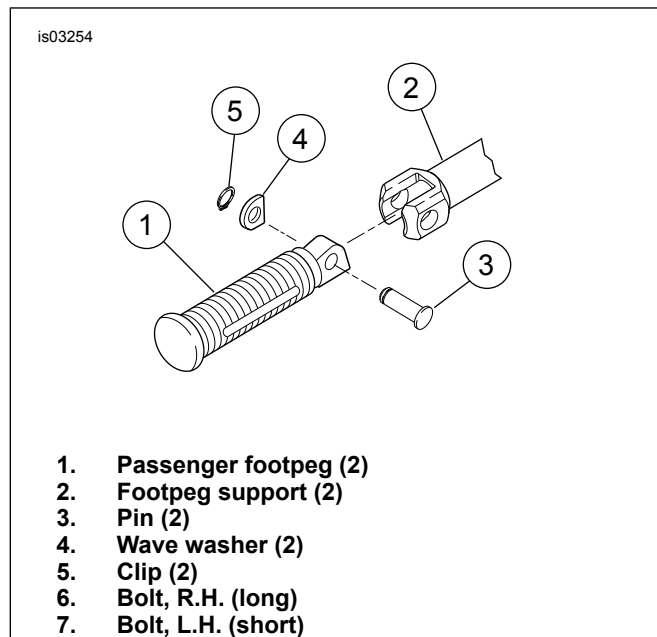

Figure 5. Passenger Footpeg Mounting (Right Side)
2. See Figure 5. Remove passenger footpeg (1) from footpeg support (2) by removing pin (3), wave washer (4), and clip (5). Save parts for kit installation.
1. See Figure 5. Align footpeg support (2) with hole in frame.
1. See Figure 5. Align footpeg support (2) with hole in muffler support.
1. See Figure 5. Install passenger footpeg (1) to footpeg support (2) using original pin (3), wave washer (4), and clip (5).